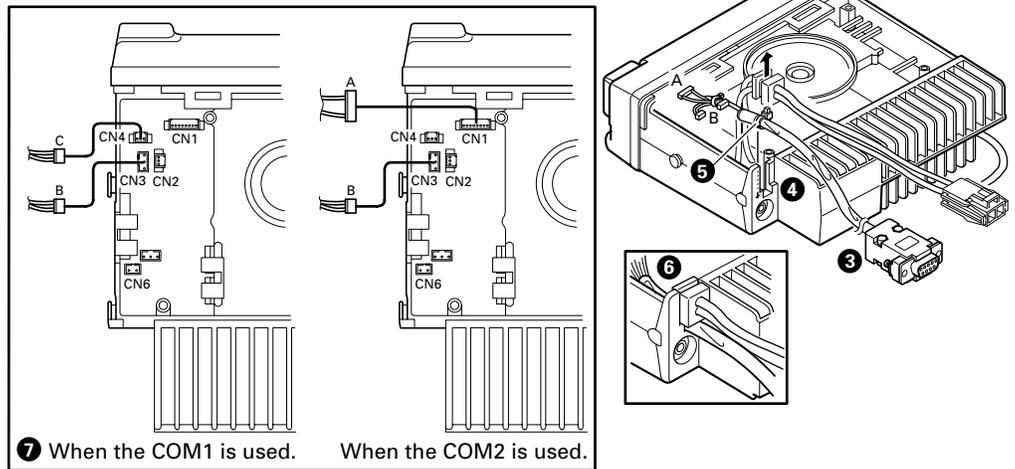

Fig. 9
6. Replace the DC cable bushing (⑥).
7. Connect the KCT-31 to the TX-RX unit (A/2) as shown in Figure 9 (⑦).